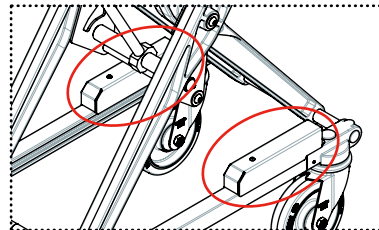

FIGURE 6
- ☐ Open the two front covers (see Fig. 6) to check that the cable is not worn or slack.